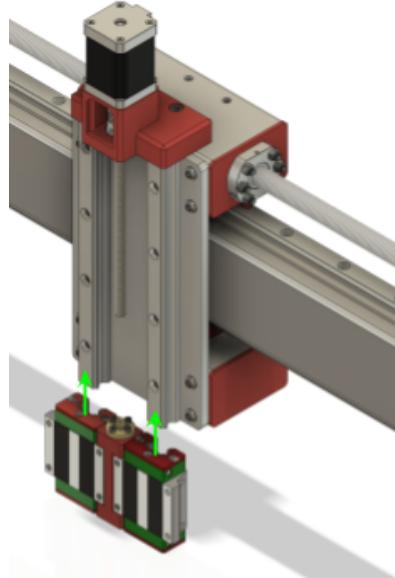

Figure 14.2
5. Slide the assembled T8 riser and HGW20 blocks onto the Z-Axis HGR20 rails from below as shown in Figure 14.2.